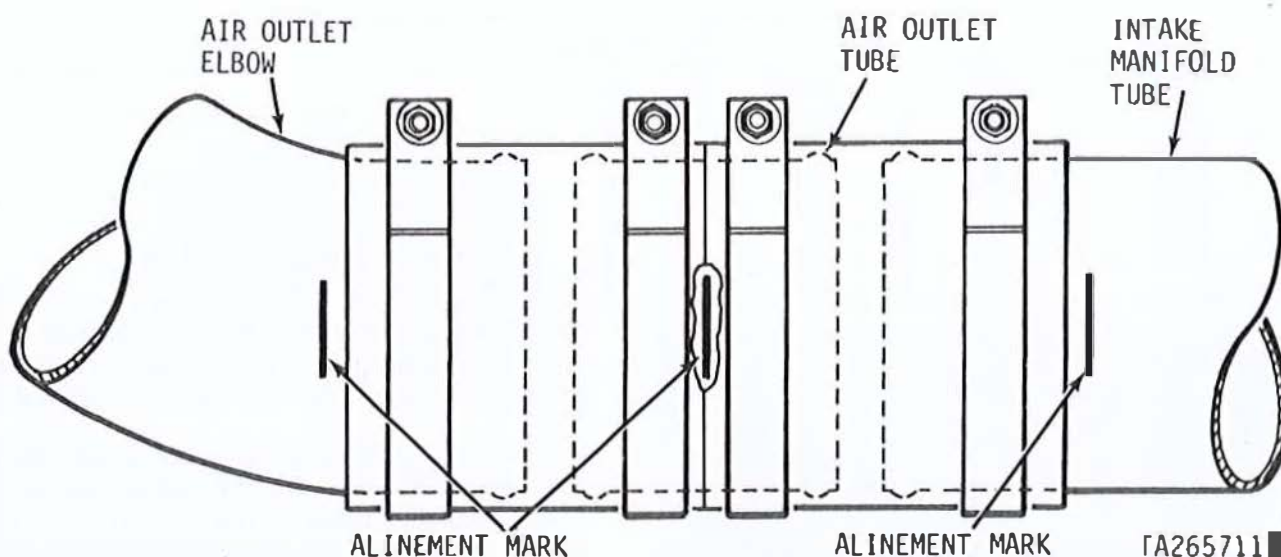

Figure 3-271.1. Alinement of Intake manifold tubes and hoses.
supercharger outlet hose (16). Install both hose assemblies on air outlet tube (17). Butt the hoses together at the alignment mark on the air outlet tube (fig. 3-271.1).